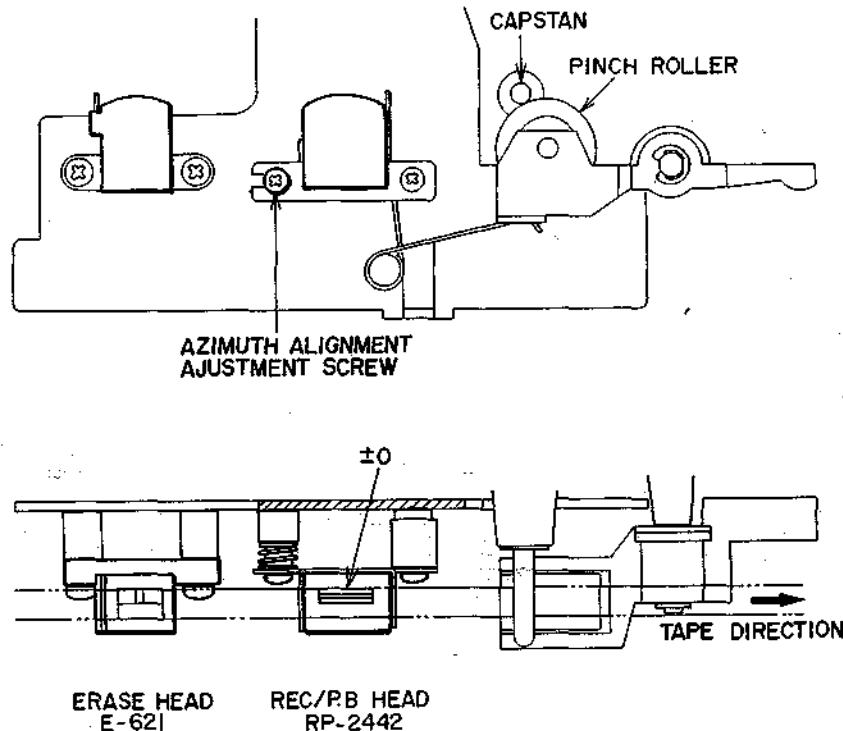

Fig. 13 Head Adjustment
### 1. RECORDING/PLAYBACK HEAD AZIMUTH ALIGNMENT (Refer to Fig. 13)
- a) Playback a 10 kHz pre-recorded cassette azimuth alignment test tape and adjust screw shown in Fig. 13 to obtain maximum output on both channels.